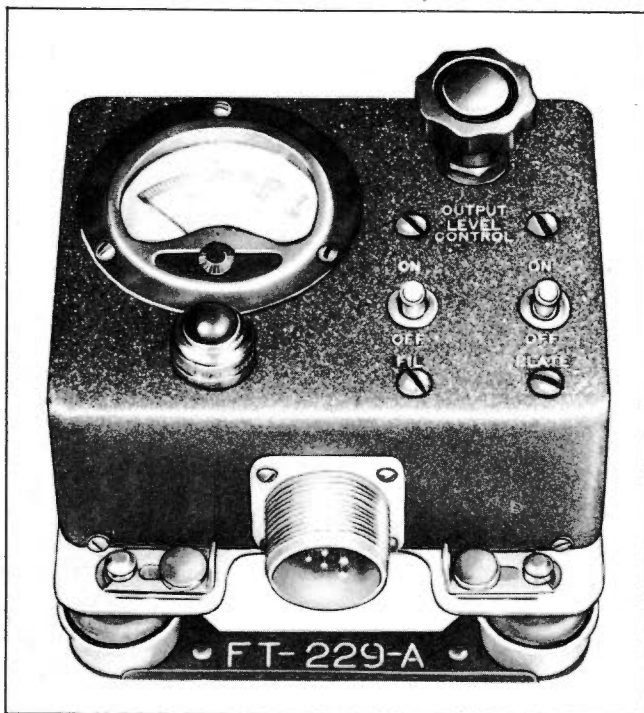

Figure 1-2. Control Unit C-58/APT-1—Exterior View
b. CONTROL UNIT C-58/APT-1.—This unit is a remote control device designed to enable the transmitter to be turned on and off and controlled from a remote point. Mounting MT-114/APT-1 is provided for its installation. (See fig. 1-2.)